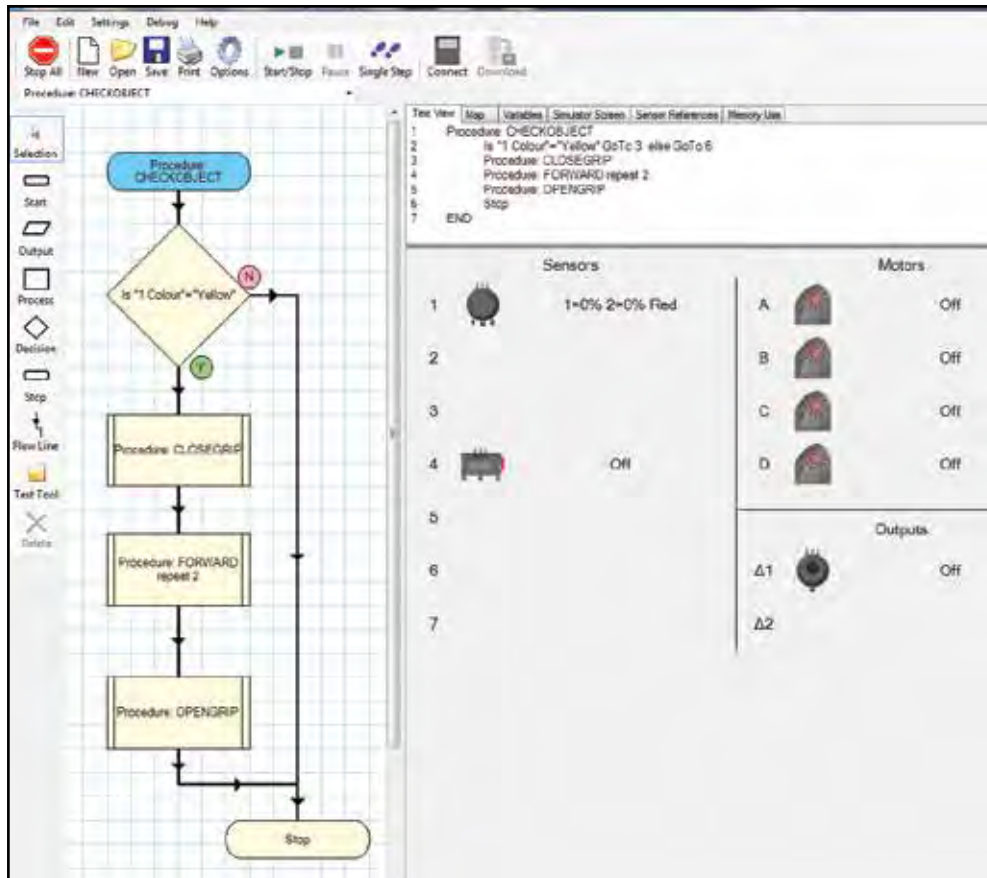

Figure 4a: Procedure "CHECKOBJECT".
Figure 1 (main program) shows a flow logic where the block with the procedure "CHECKOBJECT" is activated. Figure 4a shows the details of the flowchart logic for the "CHECKOBJECT" procedure.
- As seen in Figure 4a, the Colour/Light Sensor controls the function of the hand grip. (Later when you run the program, you will place a yellow ball in front of the Colour/Light Sensor.) "If" the sensor identifies the colour yellow, "then" it means the yellow K'NEX ball is ready to be grabbed and the procedure "CLOSEGRIP" is activated.
- After the ball has been grabbed, the Figure 4a logic shows that the procedure "FORWARD" is activated and the Robot walks forward for a few steps. (This is the same "Forward" procedure you used earlier except the number of repeats has been changed to 2.) When the Robot stops walking the procedure "OPENGRIP" is activated and the ball is released.